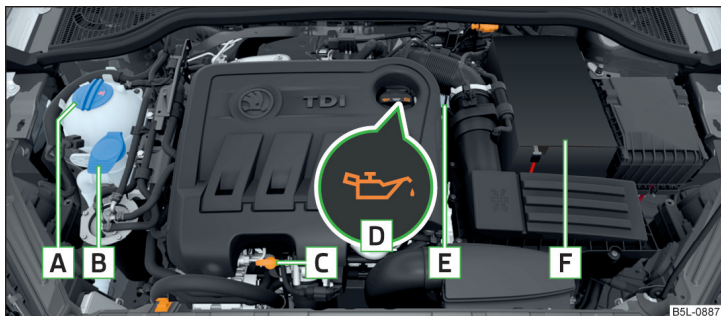

Fig. 159 Arrangement (example) in the engine compartment
- Unscrew the cap of the engine oil filler opening **D** » Fig. 159 on page 144.